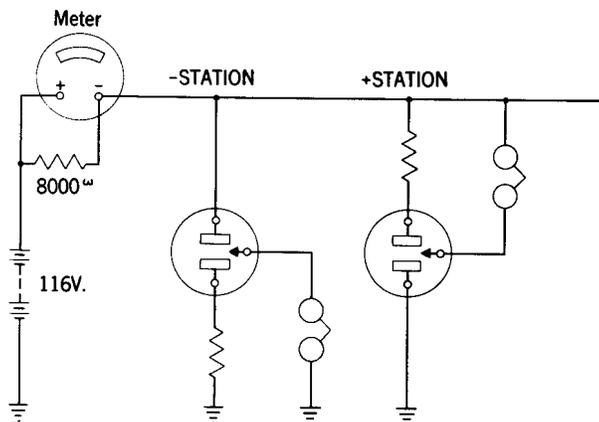

Fig. 9—Test for Tube-type Station
**5.28** To test for a positive station, operate the +STA key and note the meter reading. To test for a negative station, operate the -STA key and note the reading. A schematic of the connection with the +STA key operated is shown in Fig. 9.